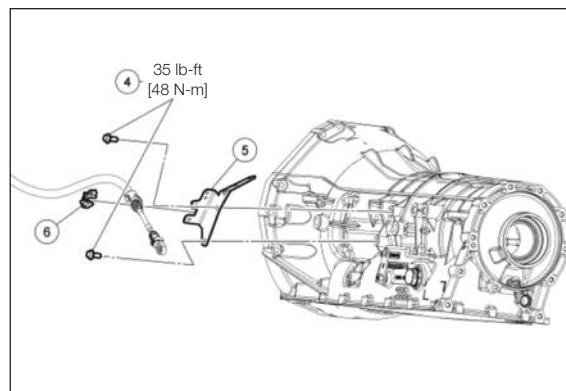

Figure 85
1. Next the vehicle selector lever cable and bracket must be removed to help in the installation (**Fig. 85**).